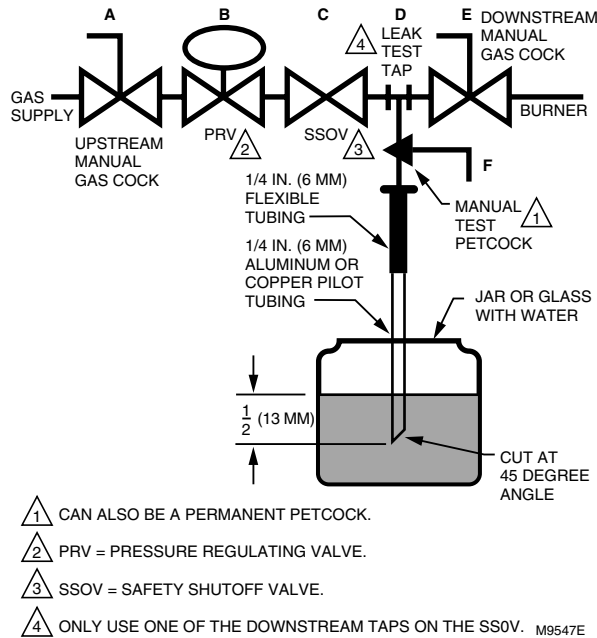

Fig. 15. Valve leak test.
Valve Leak Test (See Fig. 15).
1. De-energize the control system to make sure there is no power to the safety shutoff valve (C) shown in Fig. 15.
2. Close the upstream manual gas cock (A).
3. Make sure the manual test petcock (F) is closed in the leak test tap assembly (D).
4. Remove the leak test tap plug (valve outlet pressure tap can be used as a test tap) and connect the test apparatus to the leak test tap (D).
5. Close the downstream manual gas cock (E).
6. Open the upstream manual gas cock (A).
7. Run the safety shutoff valve (C) to its fully open position (through the safety system); then immediately de-energize the system to close the valve.
9. Slowly open the test petcock (F).